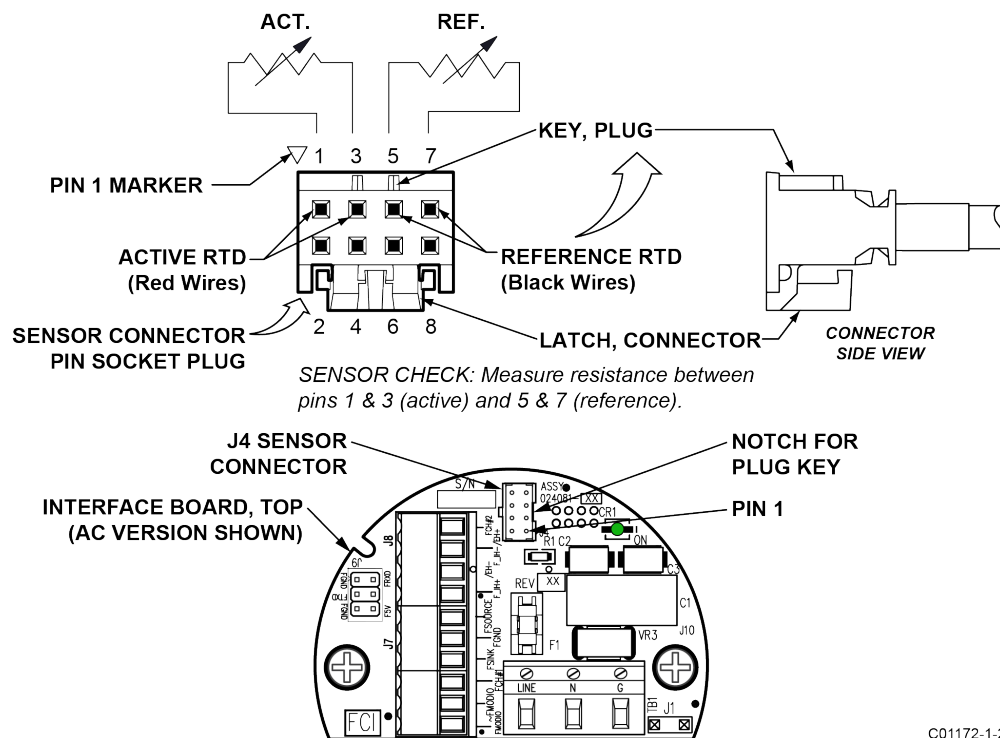

Figure 28 – Reference and Active Sensor Resistance Check (AC Version Shown)
4. Using an ohmmeter measure resistance between socket pins 1 & 3 (active) and socket pins 5 & 7 (reference). Verify that both readings are within $1100 \Omega \pm 20 \Omega$. The resistance is temperature dependent. The resistance at 70 °F is approximately 1082 Ω . Refer to Figure 28 below.